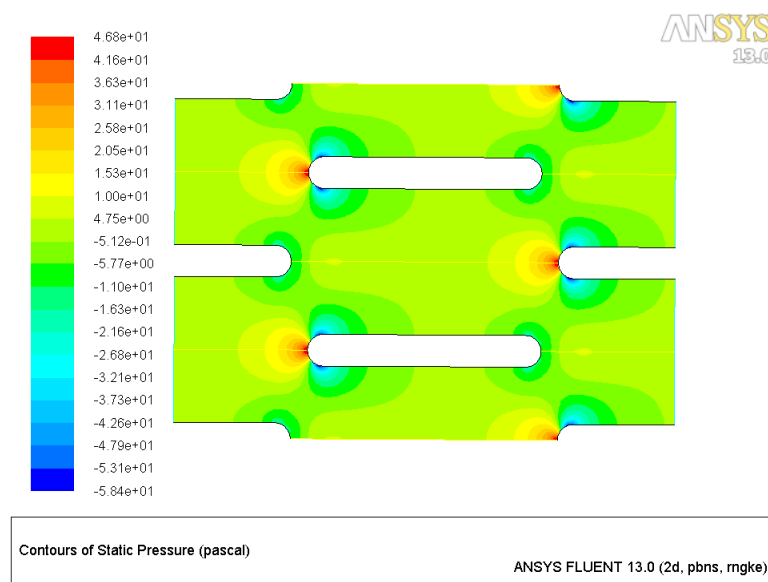

Figure 7: Contours of Static Pressure
2. Display filled contours of static pressure (Figure 7).